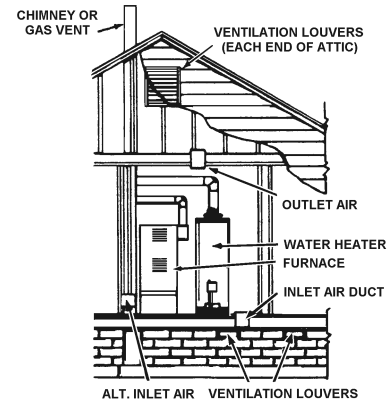

FIGURE 6.
### B. ALL AIR FROM OUTDOORS: (See Figures 6, 7 and 8)
1. When directly communicating with the outdoors, each opening shall have a minimum free area of 1 square inch per 4,000 Btu per hour (5.5 cm2/kW) of total input rating of all equipment in the enclosure, see Figure 6.